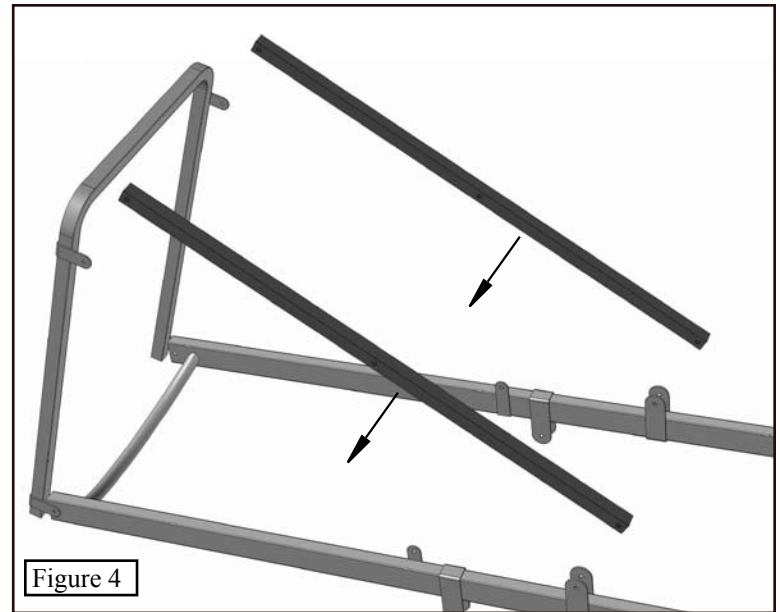

Figure 4
Step 3. Position the two Support Tubes as shown in **Figure 4**.